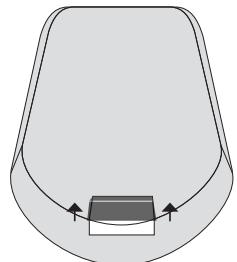
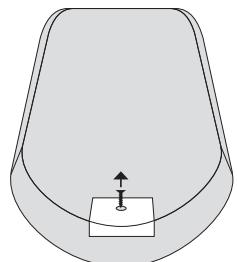
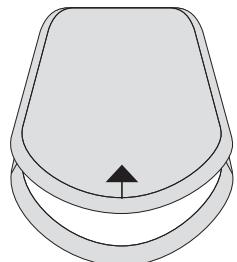

Fig. No. 2
Fig. No. 3
Fig. No. 4
Remove the small blue lid located on the front side of the enclosure by pulling the lid up. (see Fig. No. 2).
Unscrew the front side of the enclosure (see Fig. No. 3).
Detach the front side of the enclosure by pulling the front side up (see Fig. No. 4).
- Close EWS2 enclosure (see Fig. No. 4, Fig. No. 3, Fig. No. 2)